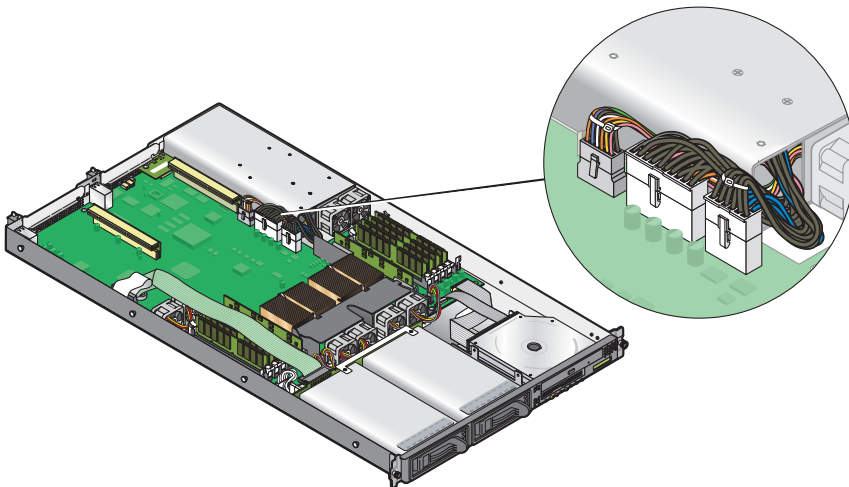

FIGURE 4-18 Disconnecting the Power-Supply Cables
3. Disconnect the three power-supply cables from the motherboard (see FIGURE 4-18).